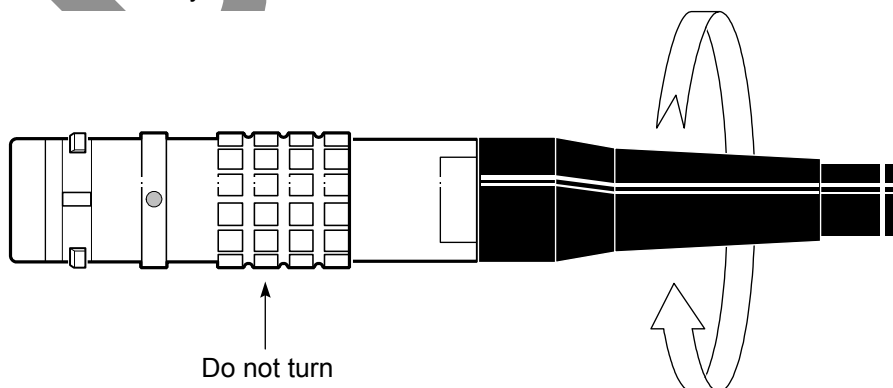

Figure 55 – Tightening the connector
14. Tighten the connector by turning the collet nut to 6.9 Nm (5 ft-lb) of torque; see Figure 55. Do not rotate the connector body.